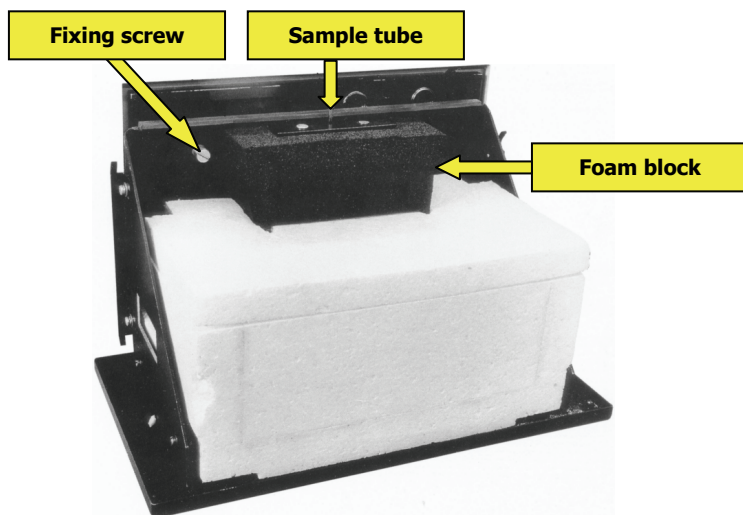

Figure 110 Low Temperature Accessory with cover removed
7. Secure the two accessory fixing screws at the top of the accessory (as shown in Figure 110, the right-hand screw is hidden by the black foam block) and the two screws at the bottom of the accessory.